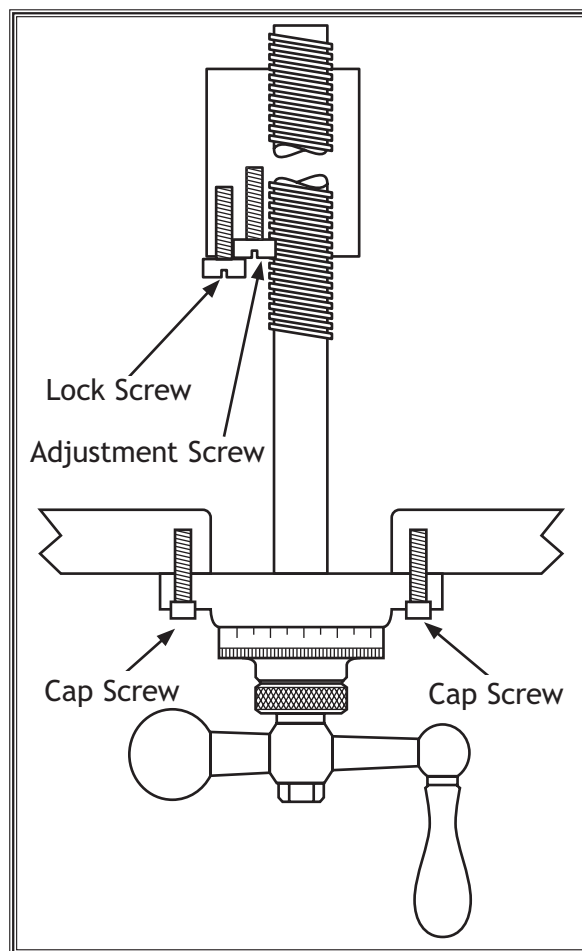

Figure 55. Crossfeed backlash adjustment.
1. Turn the crossfeed handle so that the table is as far out as possible and remove the cap screws that secure the crossfeed handle (see **Figure 55**).
3. Loosen the lock screw 1/2 a turn (see **Figure 55**).
4. Slowly turn the crossfeed handle and gradually tighten or loosen the adjustment screw shown in **Figure 55** until a slight drag is felt in the handle. Tighten the lock screw to secure the adjustment.